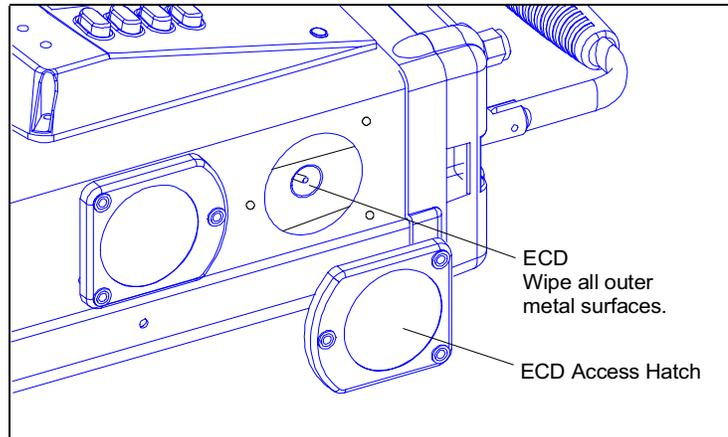

Figure 16 Access to ECD for Wipe Testing
2. Remove the ECD access cover, as shown in Figure 16, using the hex driver supplied with the tool kit for this purpose.